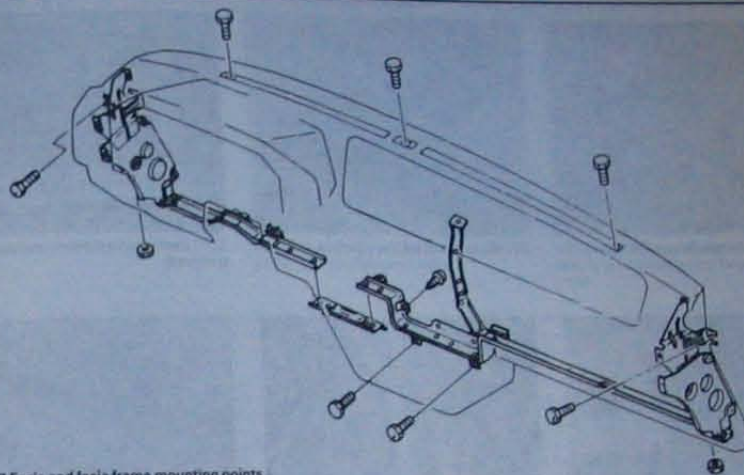

Fig 11.17 Facia and facia frame mounting points—September 1985 models onward (left-hand drive shown) (Sec 32)
- 26 Refer to Fig. 11.17 and undo the nuts and bolts securing the fascia and frame to the bulkhead, noting that some bolts will be hidden behind trim caps (photo). These can be prised out of position using a screwdriver. Ease the fascia away from its location and, as access improves, disconnect the heater ducts and any remaining wiring. Remove the fascia from the car.